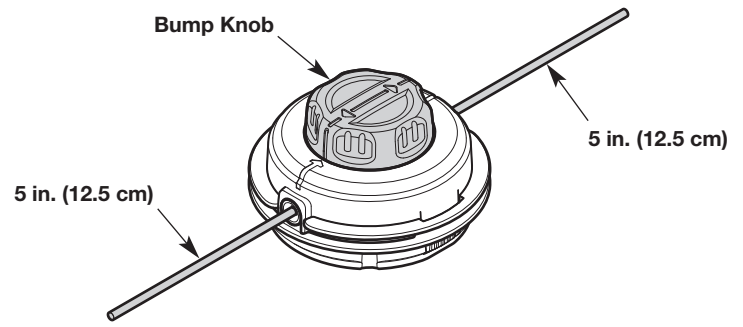

Fig. 23
- Turn the bump knob to wind the line until about 5 inches (12.5 cm) protrude from each side of the cutting head (Fig. 23).